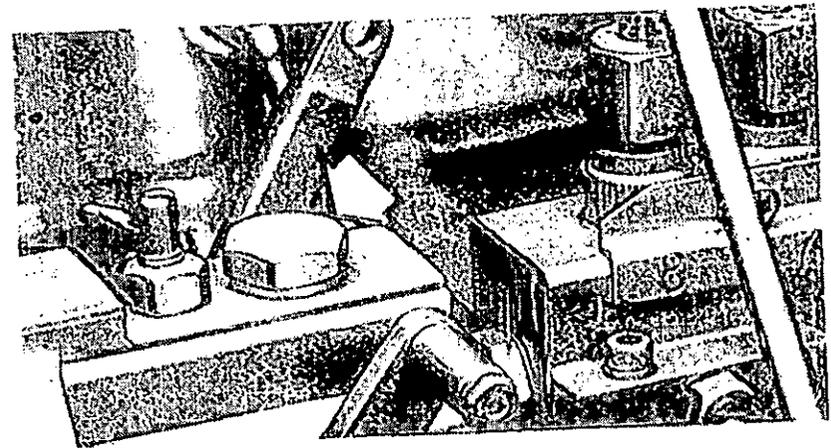
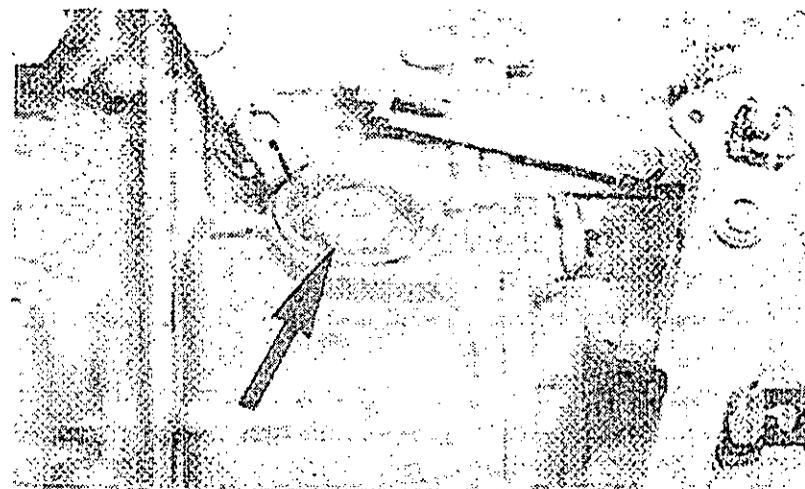

Fig. 6 CAV in line fuel injection pump lubricating oil filler plug
Fig. 7 Bosch in line fuel injection pump lubricating oil filler plug
**Note:** If the engine is fitted with an in line fuel injection pump and has not been run for at least one month, 0,6 litre (1 pint) of clean engine lubricating oil must be added to the pump before the engine is started. To add the lubricating oil, remove the filler plug from the top of the governor housing of the CAV in line fuel injection pump (see fig. 6) or one of the large plugs fitted each side of the governor housing of the Bosch pump (see fig. 7). Where a boost control is fitted on the top of the governor housing on IV8.540 engines, remove the plug fitted in the centre of the governor backplate to add the oil. During normal operation the engine lubrication system automatically lubricates the pump.